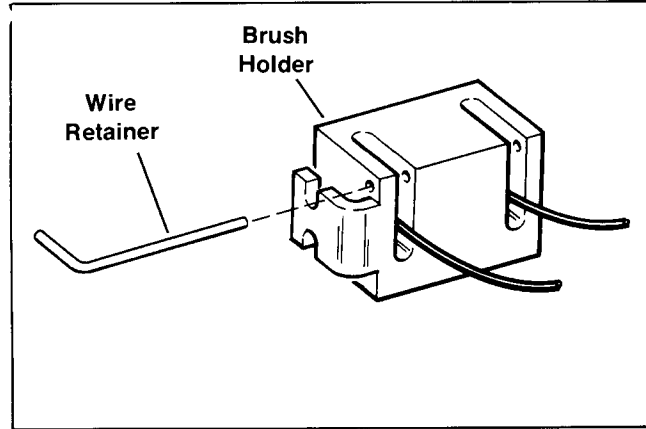

Figure 7-7. Brush Holder
6. To install the brushes and holder insert a wire to hold the brushes in (Figure 7-7). Position the brushes on the slip rings and install the two screws. Use a necessary amount of shims (Kohler No. 238248) to center brushes on slip rings. Remove the retainer wire and reconnect brush leads to connector.